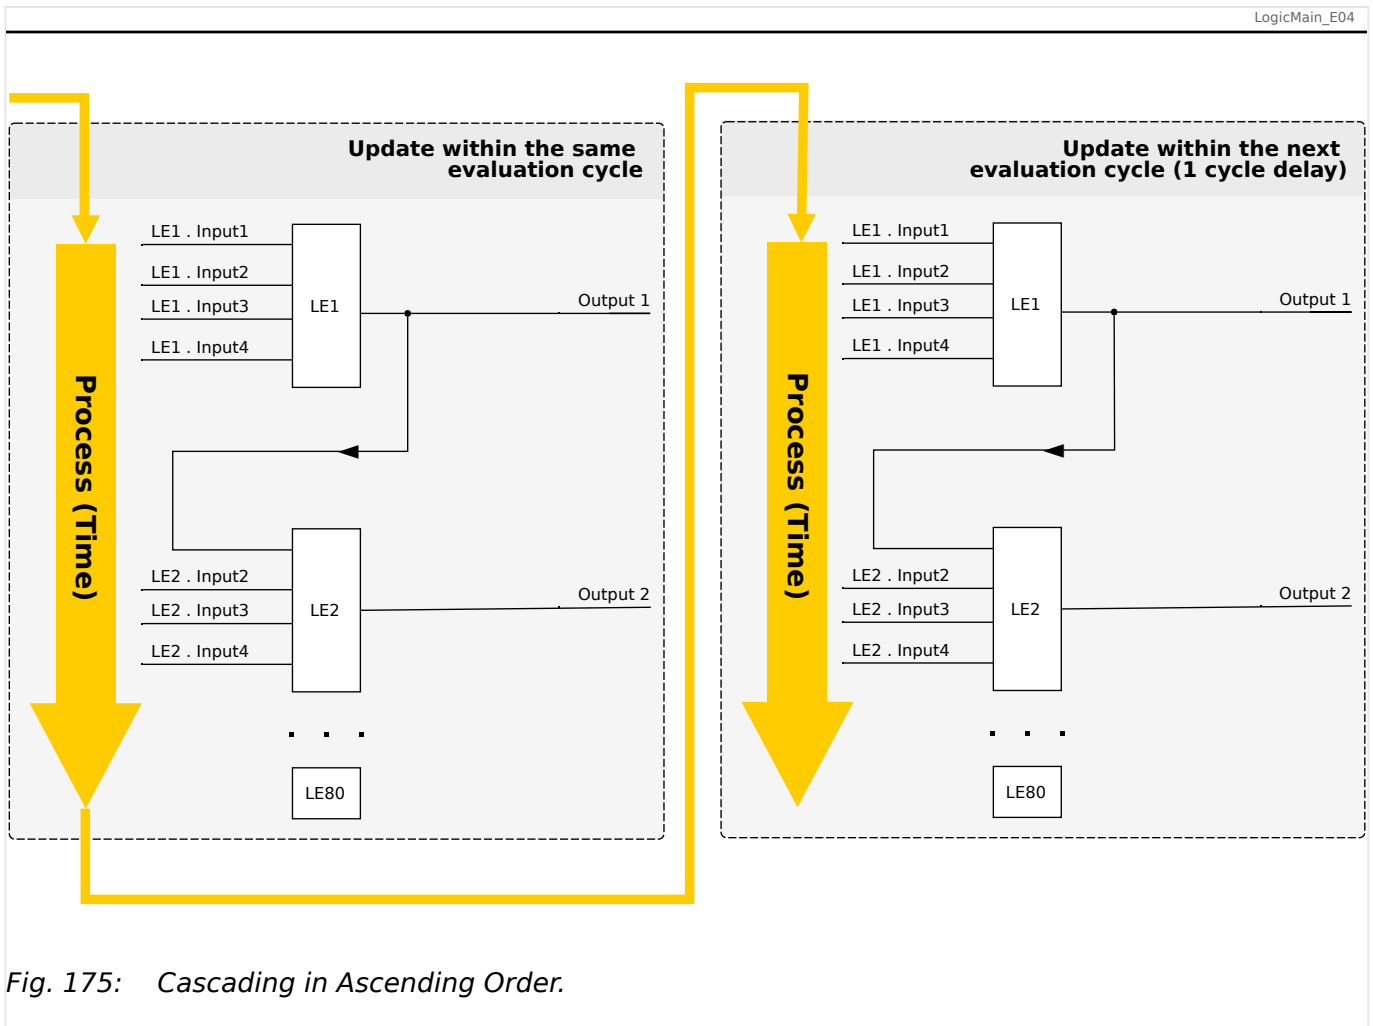
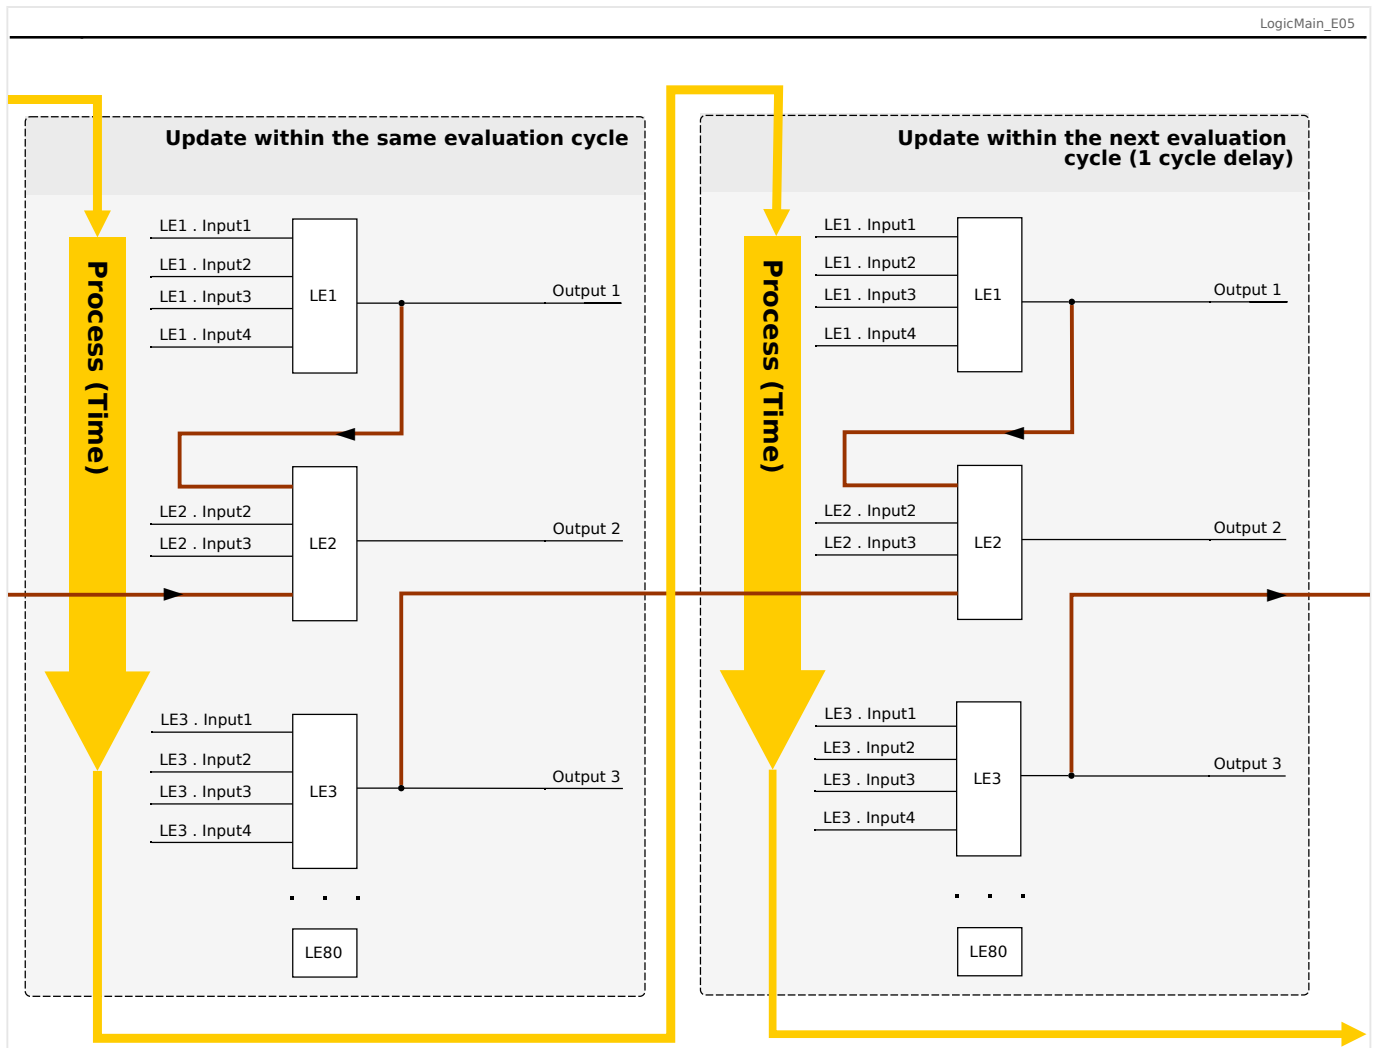

Fig. 175: Cascading in Ascending Order.
Fig. 176: Cascading in Descending Order.
- **Ascending** sequence means that some output is fed into the input of a logic equation with **higher** number. For instance, diagram  Fig. 175 below shows an example where the result of Logic Equation LE1 is used as an input of Logic Equation LE2.
- **Descending** sequence means that some output is fed into the input of a logic equation with **lower** number. For instance, diagram  Fig. 176 shows an example where the result of Logic Equation LE3 is used as an input of Logic Equation LE2.
Both ascending and descending sequences may be used and combined one with the other, with no immediate difference. However, due to the evaluation of all equations in ascending order the actual run-time values that are fed in at the input of an equation will have a different “age”, as is shown in  Fig. 175 and  Fig. 176 below.
In the example shown in Fig. 176 above, “Logic Equation 2” uses the output states of two other equations, “Logic Equation 1” and “Logic Equation 3”. The result of “Logic Equation 1” is used in ascending order and has therefore been evaluated within the same process cycle. The result of “Logic Equation 3” is used in descending order and has therefore been evaluated in the previous process cycle.